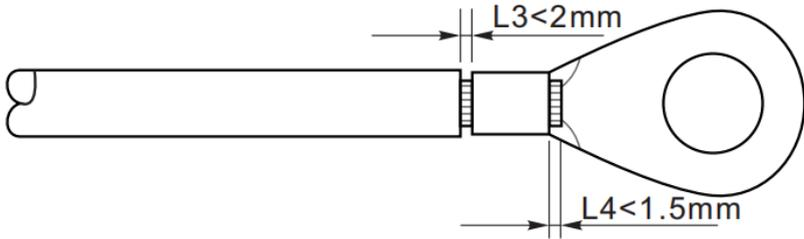

Figure 4-3 Preparing a ground cable (2)
2. Insert the exposed core wires into the OT terminal and crimp them by using a crimping tool, as shown in Figure 4-3.